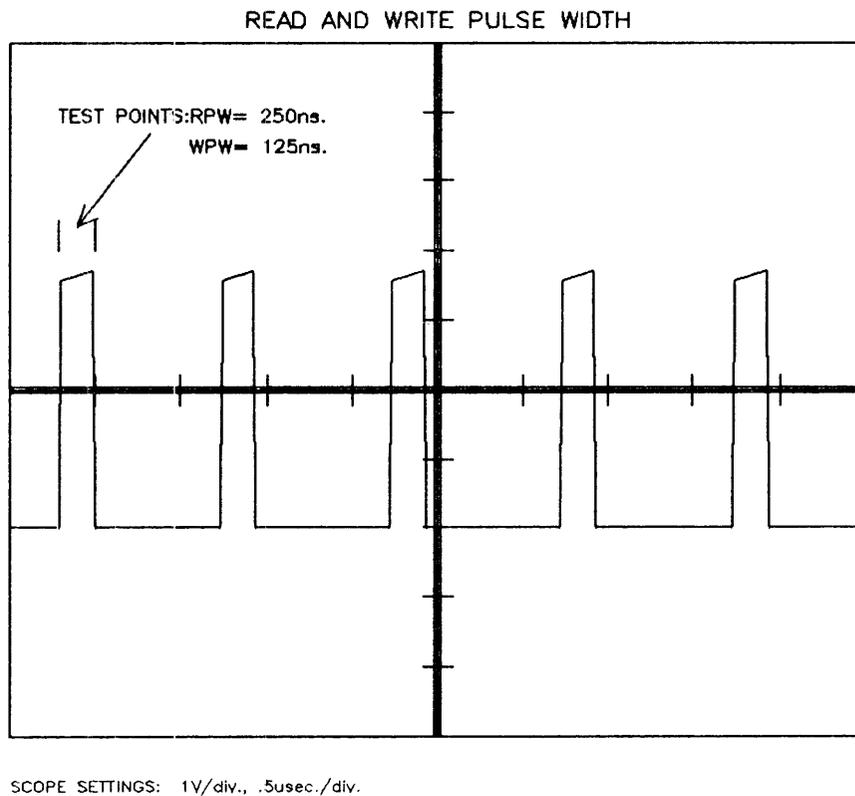

Figure 4-2
1. Set jumper JMP1 to the test (T) position.
3. Observe the waveform pulse-width (see FIGURE 4-2). The pulse width should be 250 ns.  $\pm 10\%$ .
6. Return jumper JMP1 to the (R) position.